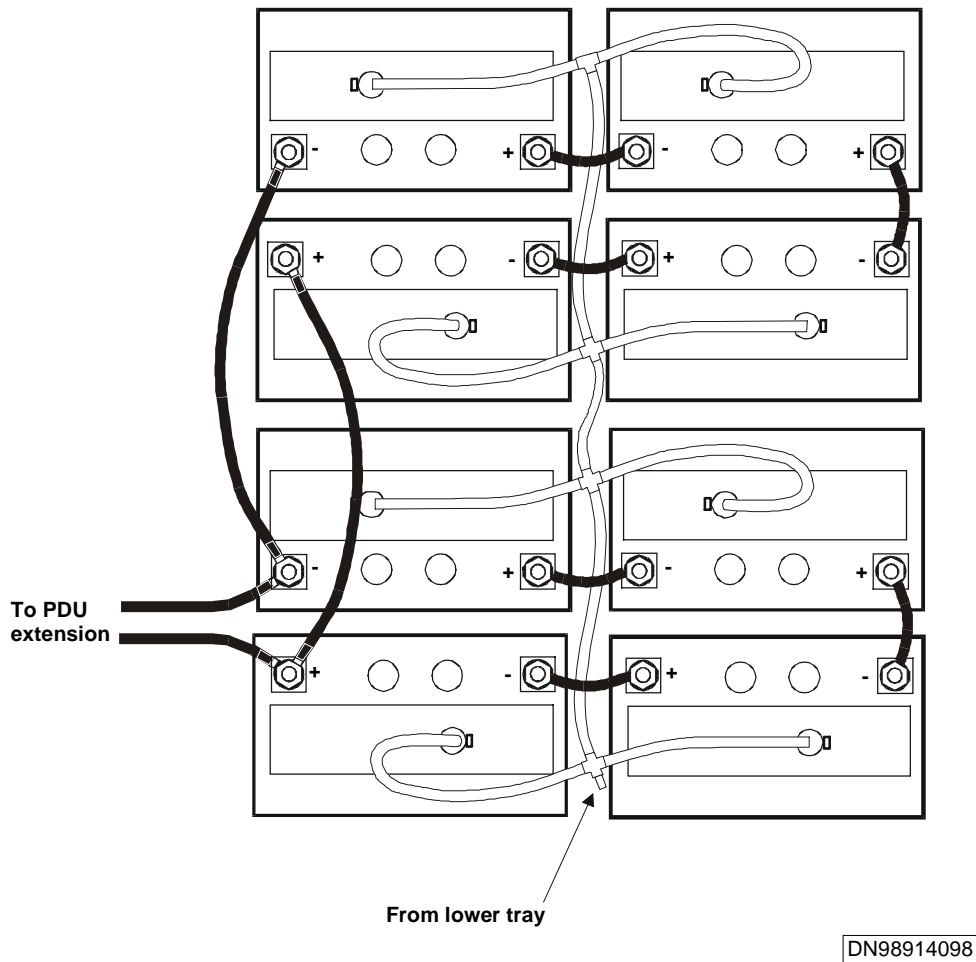

Figure 71 Sixteen battery block installation upper tray
1. Place the second block of batteries onto the upper battery tray as shown in Figure 71.
2. Connect the cables, cable bridges and the battery ventilation tubes as shown in Figure 71. Use an insulated torque wrench and tighten the battery contact screws to 6.78 Nm (5.0 ft-lb.).